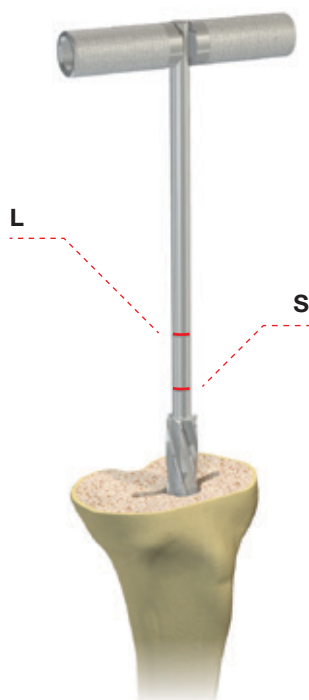

Figure 6
If the second line (L) is reached, it means a long stem is needed (*Fig. 6*). Therefore use the trial tibial stem connected with the chosen tibial trial offset module (straight/+3mm/+6mm) and the extension module (long) (9066.47.615). The final implant will consist of the definitive stem and the “L” module (*Tab. 1*).